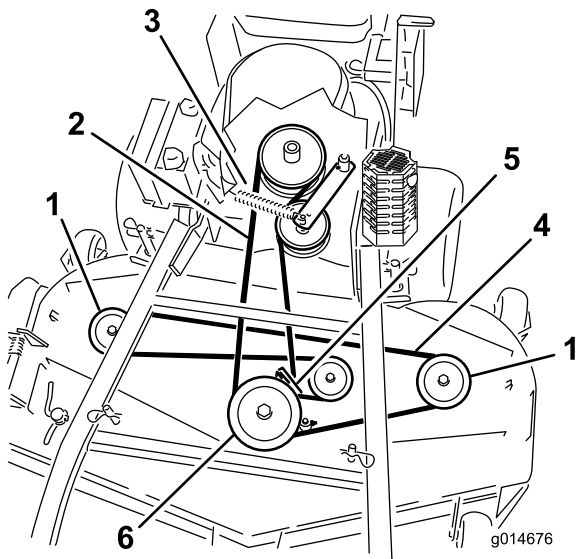
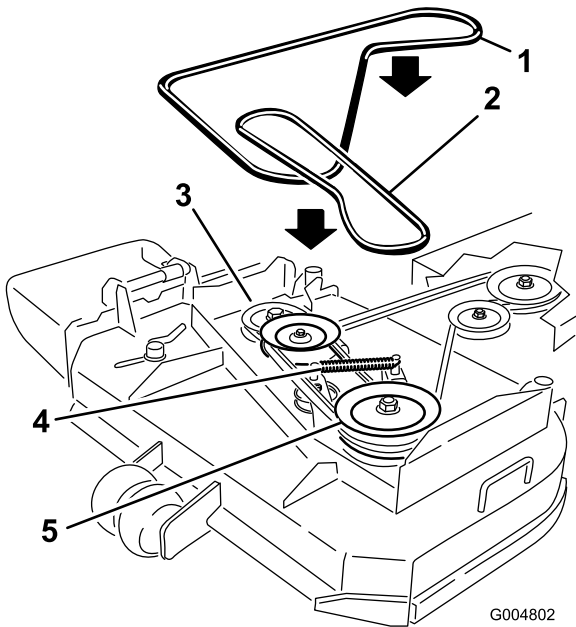

Figure 48
Figure 49
6. Disconnect the idler arm spring to relieve tension on the idler arm and idler pulley, then remove the worn mower belt (Figure 48 or Figure 49).
7. Install the new mower belt around the two outside spindle pulleys, the idler pulley, and in the lower groove of the double spindle pulley (Figure 48 or Figure 49).
8. Connect the idler arm spring (Figure 48 or Figure 49).
10. Adjust the belt guide an 1/8 inch (3 mm) from the belt (Figure 48 or Figure 49).